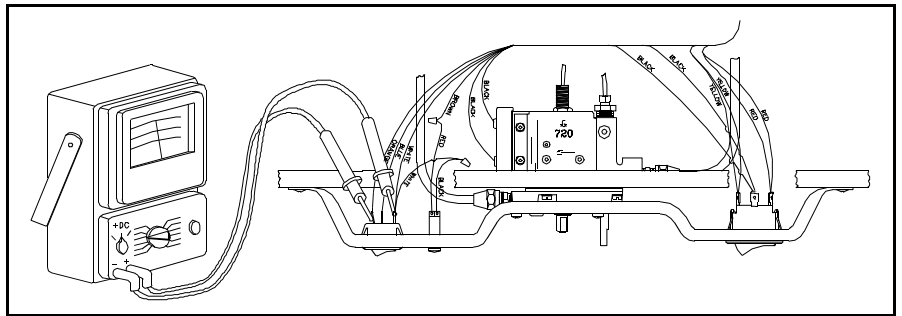

Figure 3.20 12 Volt Check at Orange and White Terminals
5. Check for 12 volts at the outlet of the Ignitor switch, making sure the switch is on. If 12 volts is not present between the DC negative and outlet wire, as shown in Figure 3.20, replace the switch. If 12 Volts is present, then proceed to Step 6.